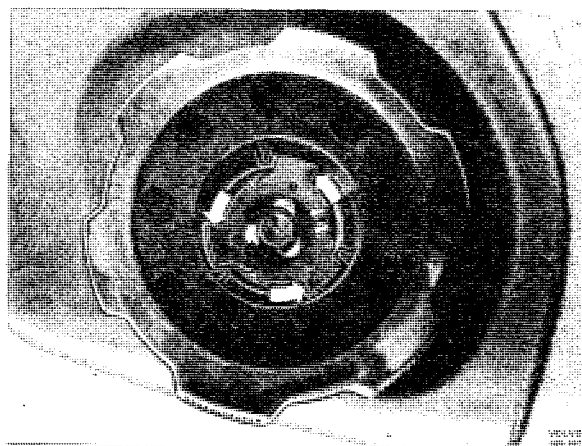

Fig. 8-55. Removing hand wheel
5. Turn the lock in the hand wheel counter-clockwise and remove the wheel. See Fig. 8-55.